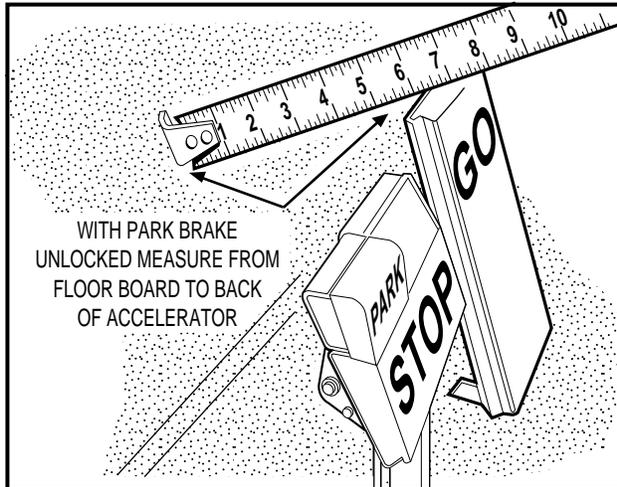

Figure 5-5 Measure Accelerator Pedal Height
- 2.2. With the park brake unlocked, measure and note the distance from the top of the accelerator pedal to the floorboard, and then lock the park brake (**Figure 5-5, Page 5-5**).